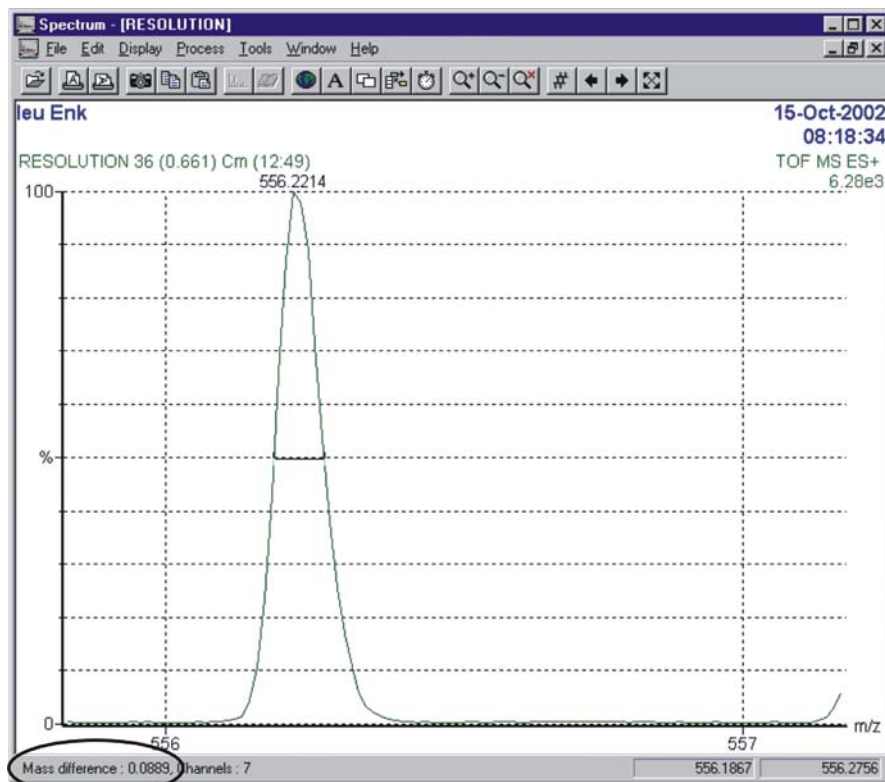

Figure 2-14 Combined Spectrum of Leucine Enkephalin Showing Peak Width at Half Height
7. With the aid of the grid right-click and drag the mouse across the width of the peak at half height. The width is shown in the bottom-left corner of the Spectrum window (Figure 2-14).